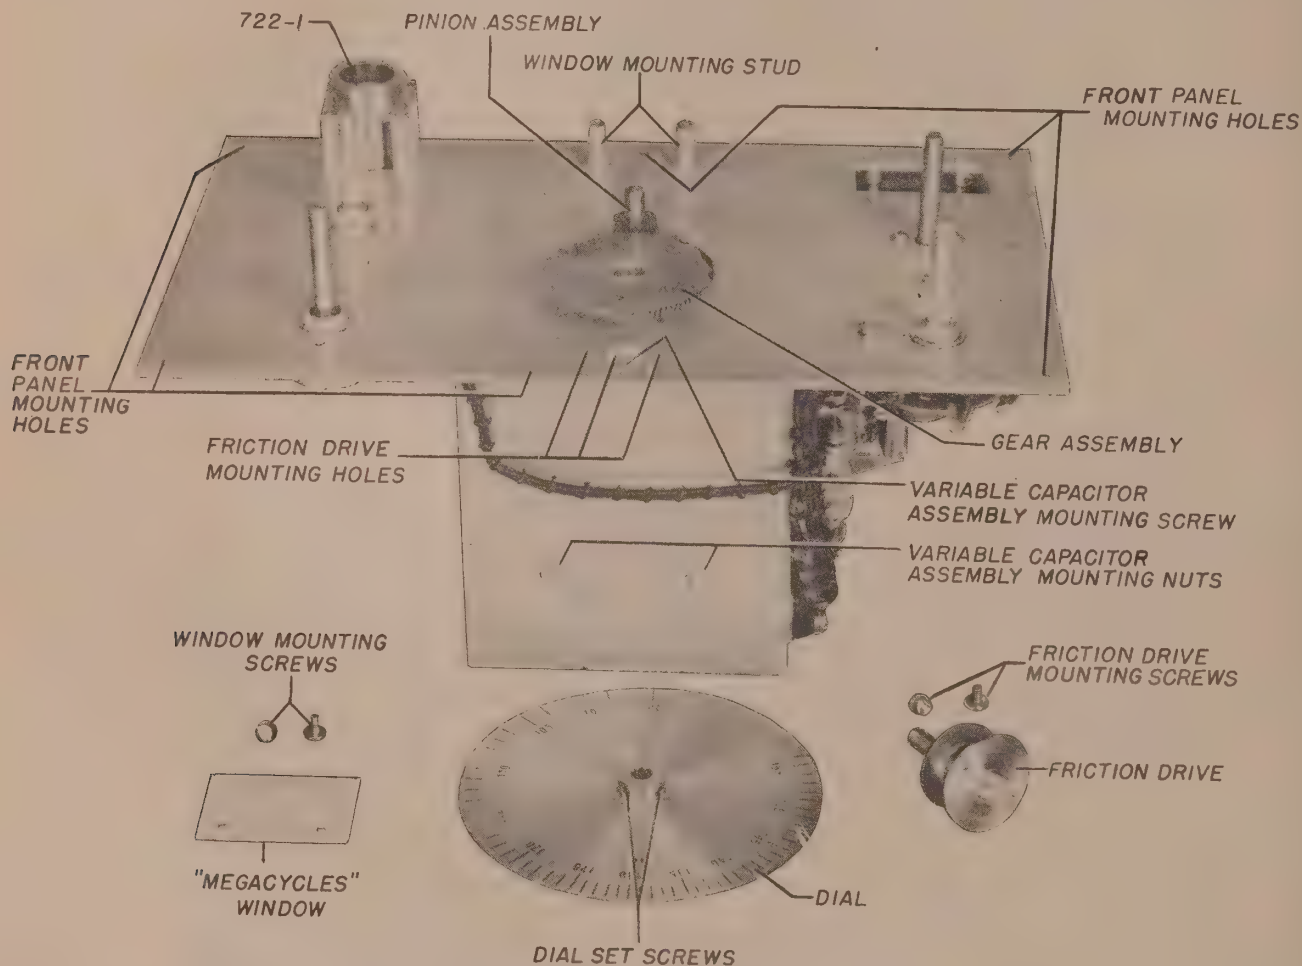
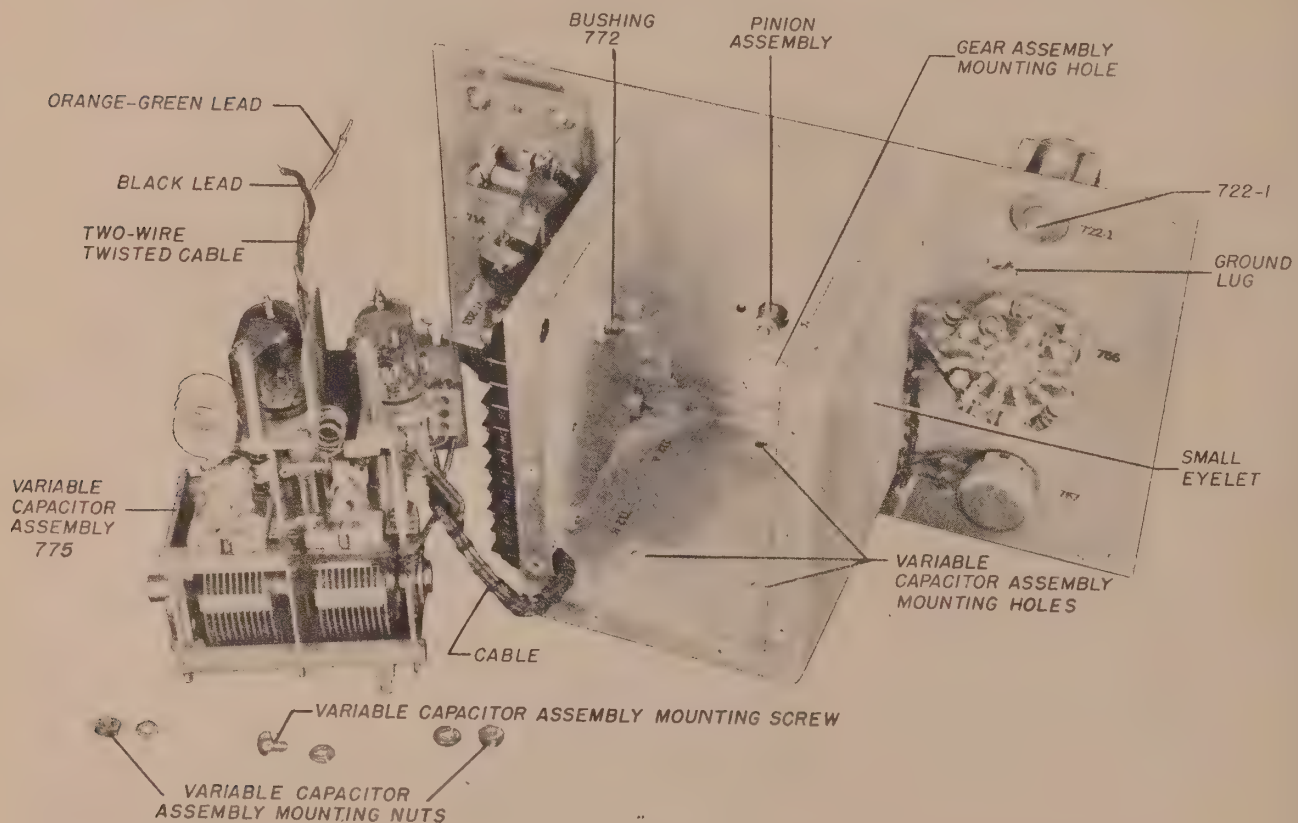

FIGURE 26—SIGNAL GENERATOR I-130-A, R-F UNIT, DIAL REMOVED
FIGURE 28—SIGNAL GENERATOR I-130-A, R-F UNIT, VARIABLE CAPACITOR ASSEMBLY
(7) Rotate the gear assembly to make accessible the set screws fastening it to the variable-capacitor shaft. Loosen set screws and pull gear assembly away from shaft (see FIGURES 26 and 27).
(8) Remove the screw and the two nuts which secure the variable-capacitor assembly to the compartment shield (see FIGURE 26). The variable-capacitor assembly may now be lifted out of the compartment (see FIGURE 28). Complete removal is not possible because of cable connections, and is not necessary for most